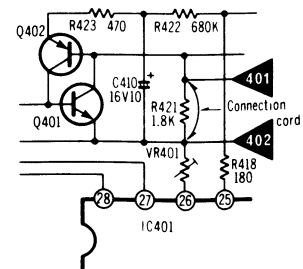

Fig. 17
2. Connect a wire between TP401 and TP402 (See fig. 17).